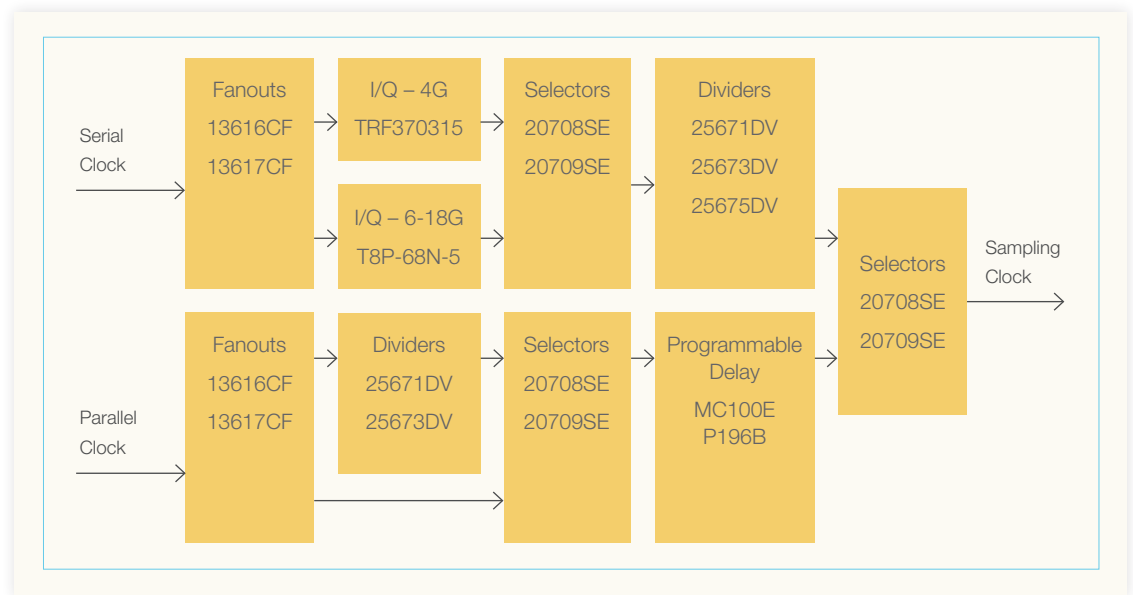

Fig 5.2.1 Timing Generator
4.2: Timing Generator: A timing generator takes the serial or parallel clock and generates a sampling clock. If the input clock is a serial clock, then clock dividers are used to bring the clock down to the rate that is compatible with the ADC choice. Not only does the clock have to be brought down to lower rates, it has to be delayed in precision steps to sample the incoming digital signal at various points over one unit interval (UI) so the resulting data eye can be plotted on the screen. The delay generation in high-end DEAs is proprietary to the scope vendors and a highly guarded secret by them. There are simple methods for timing generation using off-the-shelf components shown in Fig 5.2.1.
5.2: Timing Generator: The optimal sampling frequency is recommended to be in the range of 20-200 MHz, though it can be as high as 2 GHz. If the input serial or parallel clock is more than 200 MHz, then it can be divided down to get in the range of 20-200 MHz. The divided clock could be selected using a selector chip. Fig 5.2.1 shows the architecture.
5.2.1: Serial Clock: An I/Q modulator can be used as a block which shifts the clock in small steps. Typically, the I/Q modulators come in frequency bands. For example, TRF370315 can be operated between 400 MHz to 4 GHz. I/Q modulators can be used as the phase shifter or programmable delay¹. To cover broader frequency range, multiple I/Q modulators covering various ranges can be used in parallel. A clock fan-out circuit, e.g. 13617CF, and a selector circuit 20709SE can be used to connect multiple band I/Q modulators as shown in Fig 5.2.1. For high-end performance, the delay steps can be calibrated during production. For operation over temperature, either the delay block is kept at calibration temperature using a thermo-electric-cooler or other temperature stabilization methods, or temperature dependent calibration can be done and a look-up table could be used during operation. Real-time calibration is also possible, but is beyond the scope of this white paper.